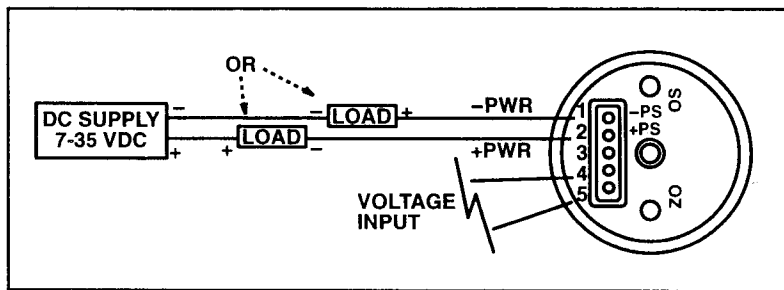

Figure 3-6 Wiring Diagram for the TX95
3.2 Wiring the TX95 (Refer to Figure 3-6)
Check the improper wiring (Refer to Figure 3-6)